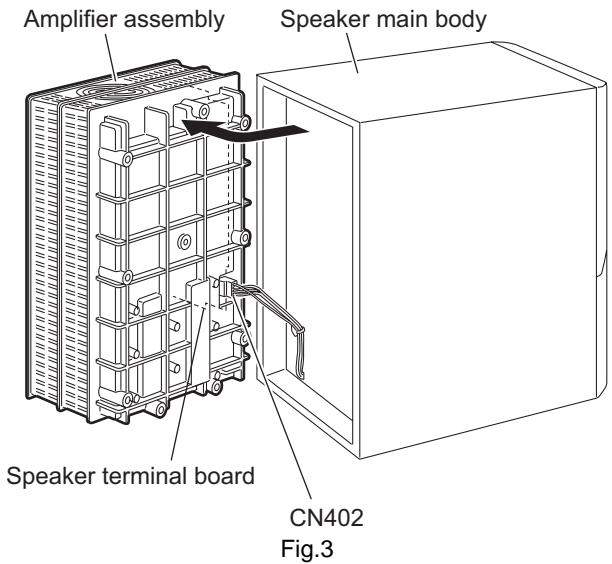

Fig.3
#### 3.3.1 Removing the amplifier assembly (See Figs.3 and 4)
- (3) Move the amplifier assembly backward and disconnect the wire from the connector CN402 on the speaker terminal board. (See Fig.3.)